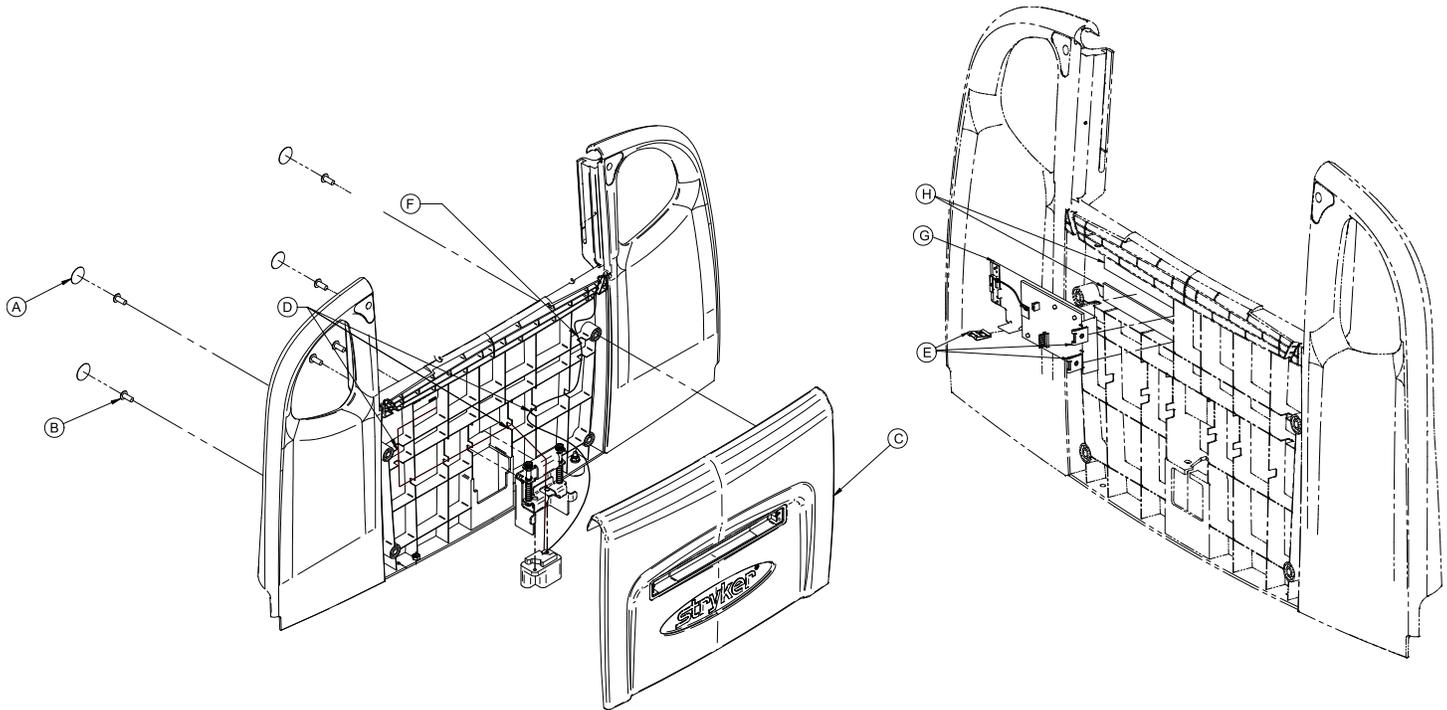

Figure 73 – Wi-Fi board
3. Using a small pick, remove the four screw covers (A) from the back of the footboard (Figure 73). Save the screw covers.